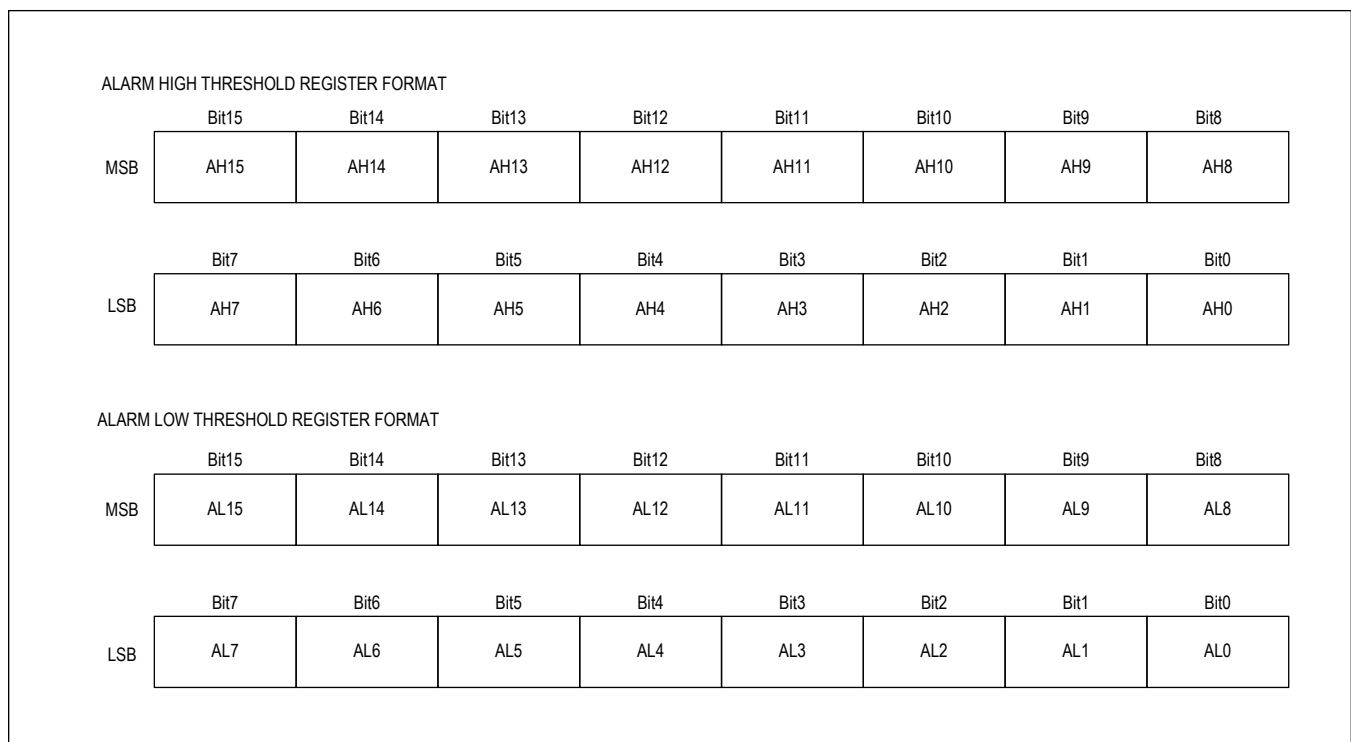

Figure 2. Alarm Threshold Register Format
After the device performs a temperature conversion, the temperature value is compared with the user-defined two's complement alarm trigger values stored in the 2-byte Alarm High and 2-byte Alarm Low registers (see Figure 2). The default value for AH is 0x7FFF (+163.835°C) and the default value for AL is 0x8000 (-163.840°C). The MSB indicates if the value is positive or negative; for positive numbers the MSB is 0 and for negative numbers the MSB is 1. The Alarm High threshold (AH) is programmed in registers ALARM_HI_MSB [0x10] and ALARM_HI_LSB [0x11]. The alarm low